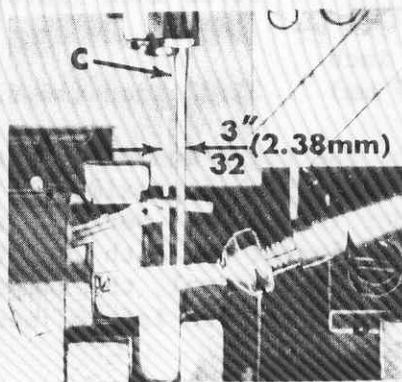

Fig. 8
Insert the lower looper (A, Fig. 8) into bar (B). With lower looper at the left end of its stroke, set looper point $\frac{3}{32}$ inch (2.38 mm) from centerline of right needle (C) using gauge No. 21225-3/32. Do not have lower looper deflecting needle. Do not lock nut (D) because the looper point will have to be set to the needle scarf, after the rear needle guard has been positioned. (See paragraph under "Final Setting of Lower Looper").
Now complete the lower looper adjustment. As lower looper moves to the right, its point should be set into the needle scarf, barely touching but not deflecting the needle. Adjustment can be made by rocking the looper forward or backward around its shank. Recheck specified lower gauge setting and tighten nut (D, Fig. 8).